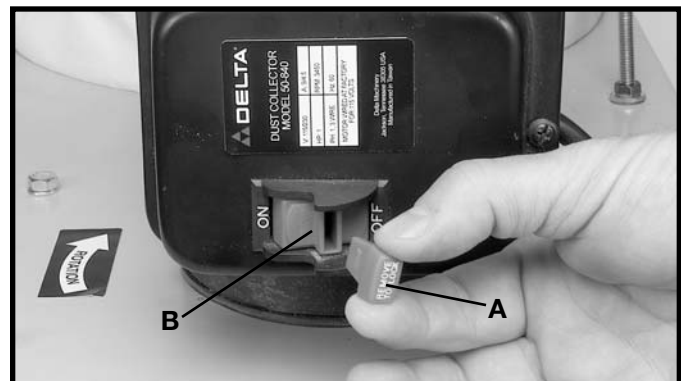

Fig. 25
When the tool is not in use, the switch should be locked in the "OFF" position to prevent unauthorized use. This can be done by grasping the switch toggle (A) Fig. 25, and pulling it out of the switch (B) as shown. With the switch toggle (A) Fig. 25, removed, the switch will not operate. However, should the switch toggle (A) be removed while the dust collector is running, it can be turned "OFF" once, but cannot be restarted without inserting the switch toggle.